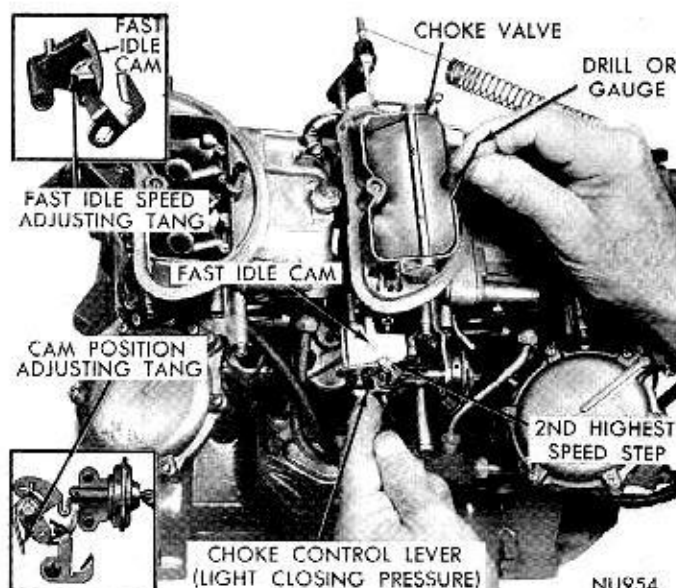

Fig. 28—Fast Idle Cam Position Adjustment
(1) Qualify the choke control lever, if necessary. (See Qualifying the Choke Control Lever Paragraph).
(2) With fast idle speed adjusting tang contacting second highest speed step on fast idle cam, move choke valve toward the closed position with light pressure on choke control lever (Fig. 28).
(3) Insert specified drill between the choke valve and wall of the air horn (See specifications).
(4) To adjust, bend the indicated tang (Fig. 28) until the correct choke valve opening has been obtained.